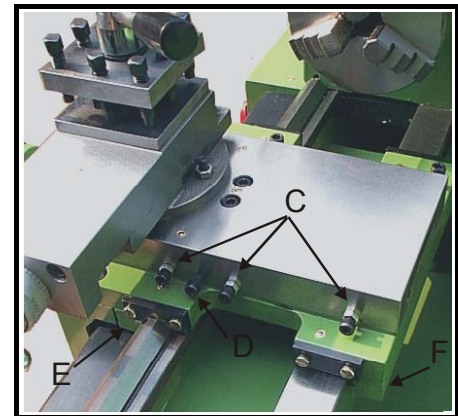
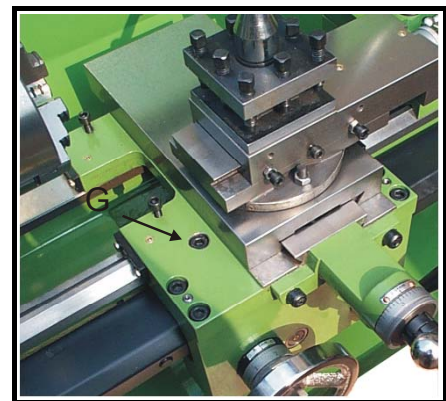

Fig. 25
Fig. 26
2. **Gib Of Cross Slide** - loosen the nuts and readjust the screws (C, Fig.25) clockwise slightly. Then retighten the nuts. The cross slide can be immobilised with the locking screw (D, Fig.25) to prevent it moving axially during process.
3. **Clamping Plate Of Carriage** – Two front clamp plate of carriage (E, Fig.25) are mounted on two side of carriage with four hex screws. Loosen the screws, dismount the clamping plate and regrind it. One back clamping plate are mounted on the carriage with four hex screws. Loosen the screws, dismount the clamping plate and regrind it. To prevent the carriage from moving axially during the facing process, the carriage can be immobilised with locking screw (G, Fig.26) when marking recesses, we also recommend that you immobilizes the carriage.